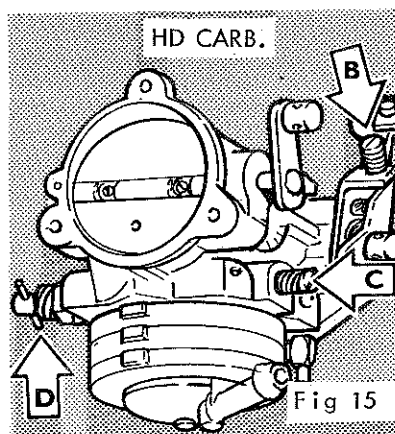

Fig 15
- a) Idle speed screw Fig. 15 (B)
- b) Idle mixture screw Fig. 15 (C)
- c) High speed mixture T-screw Fig. 15 (D)
A typical carburetor is shown in Fig. 15. But different types are used on some Sno\*Jet models. These carburetors vary in detail, but all have the three adjustment screws listed above.
Located close to the end of the throttle cable. Fig. 15 (B).
Located on the side of the carburetor body Fig. 15 (C), it is a simple screw with screwdriver slot.
Located on the side of the carburetor body Fig. 15 (D) it has a T-bar and a screwdriver slot to facilitate identification. Turn clockwise to weaken mixture or counterclockwise to richen mixture.